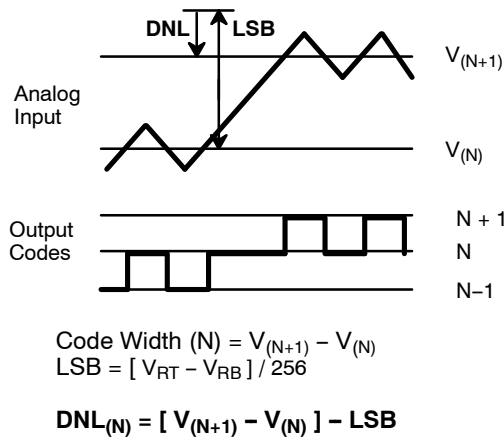
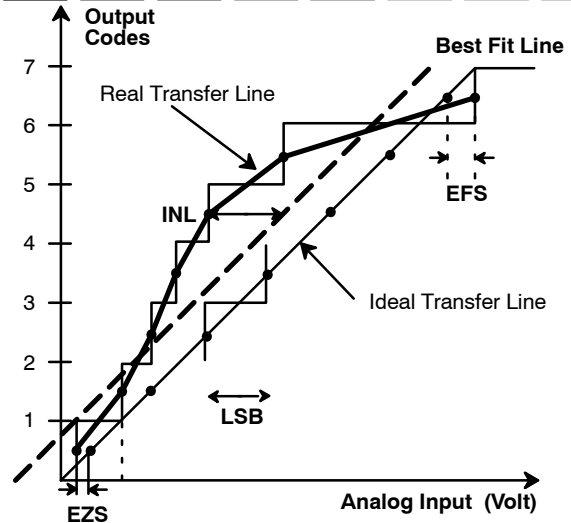

Figure 2. DNL Measurement
Figure 3. INL Error Calculation
- 1 Tester measures code transitions by dithering the voltage of the analog input (V_{IN}). The difference between the measured and the ideal code width ($V_{REF}/256$) is the DNL error (Figure 2.). The INL error is the maximum distance (in LSBs) from the best fit line to any transition voltage (Figure 3.). Accuracy is a function of the sampling rate (FS).